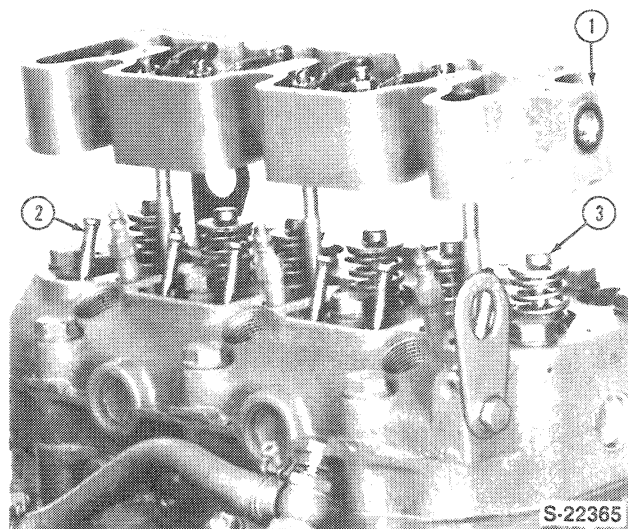

Figure 11
- 15. Remove the valve rocker arm shaft and support as an assembly, Figure 11.
- 16. Remove the valve stem caps and push rods, Figure 11.